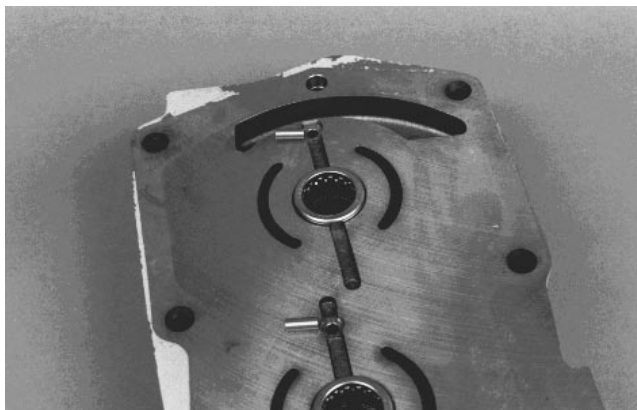

Figure 71
17. Install valve plate locating pins into center section (Fig. 71).